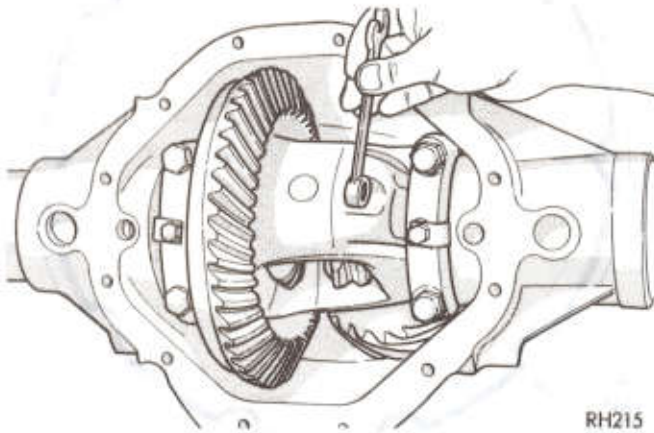

Fig. 3—Removal or Installation of Differential Pinion Shaft Lock Pin
- (1) Raise vehicle to a good desirable working height and remove the rear wheel and tire assembly and brake drum.
- (2) Clean all dirt and foreign material from area of housing cover.
- (3) Loosen housing cover and drain lubricant from rear axle and proceed to remove cover.
- (4) Turn differential case to make differential pinion shaft lock screw accessible and remove lock screw and pinion shaft (Fig. 3).